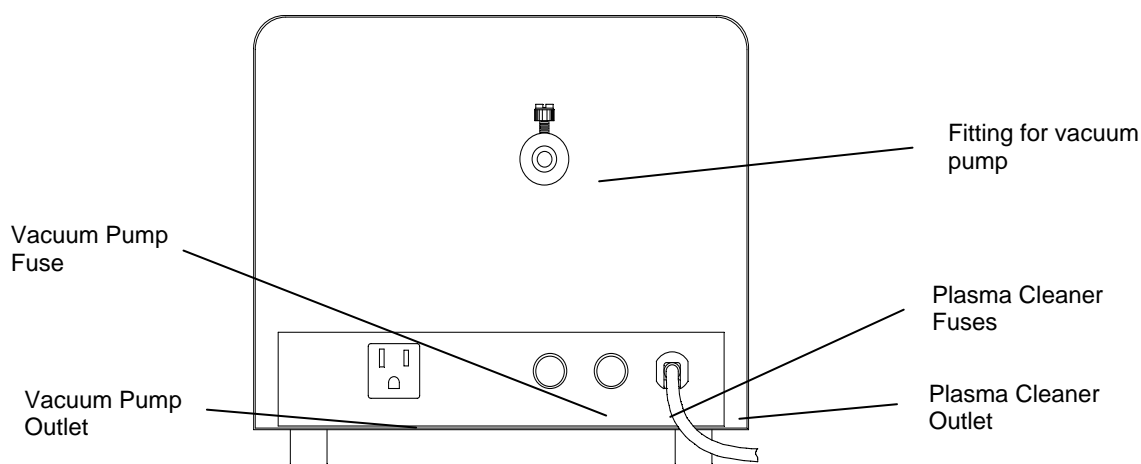

Figure 2 • Plasma Cleaner Back View (110V Model)
- Connect the fitting at the rear of the Plasma Cleaner (Figure 2) to the vacuum pump with $\frac{1}{2}$ " ID vacuum tubing.
- Plug the vacuum pump into the vacuum pump outlet on the back of the Plasma Cleaner (110V model, Figure 2) or into another outlet (220V model).
- Connect the fitting at the rear of the Plasma Cleaner (Figure 2) to a vacuum pump with ½" ID vacuum tubing and hose clamps over the tubing at each end.
- Plug the vacuum pump into the vacuum pump outlet on the back of the Plasma Cleaner (Figure 2) or into a second outlet.
- Connect the fitting at the rear of the Plasma Cleaner (Figure 2) to the vacuum pump with ½" ID vacuum tubing and hose clamps over the tubing at each end.